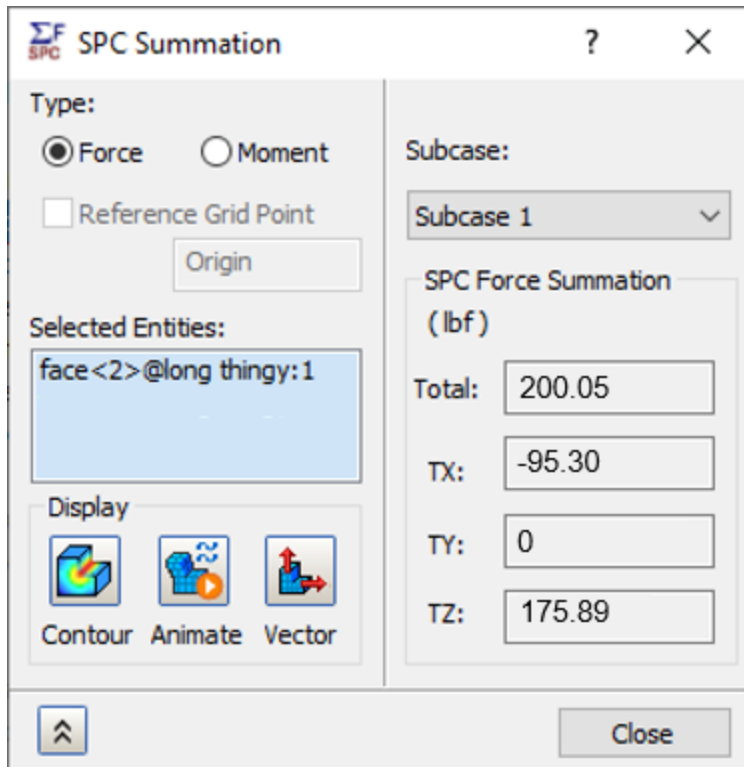

Figure 73 - Sum of reaction force from the nodes on the “Z symmetry” plane. The X reaction force comes from the nodes that are shared with the X symmetry plane.
3. Here is the tricky item: the total SPC Force Summation is not for the constraint on the selected geometry. The summation is the reaction forces for the nodes on the selected geometry. Most times the constraint and nodes are the same. In the quarter symmetry model shown in Figure 72, the blue constraint is a Z symmetry constraint, and the red constraint is an X symmetry constraint. When viewing the SPC summation for the Z symmetry constraint (Figure 73), you might expect the reaction to only have forces in the Z direction (TZ). However, the X direction (TX) also has a reaction force on the selected face because the nodes where the two symmetry planes meet creates an X force on the selected nodes. In other words, most of the nodes on “face <2>@long thingy:1” only have a Z constraint, but a few nodes include a Z constraint and an X constraint. The X reaction force comes from the few nodes with both the X and Z constraint.